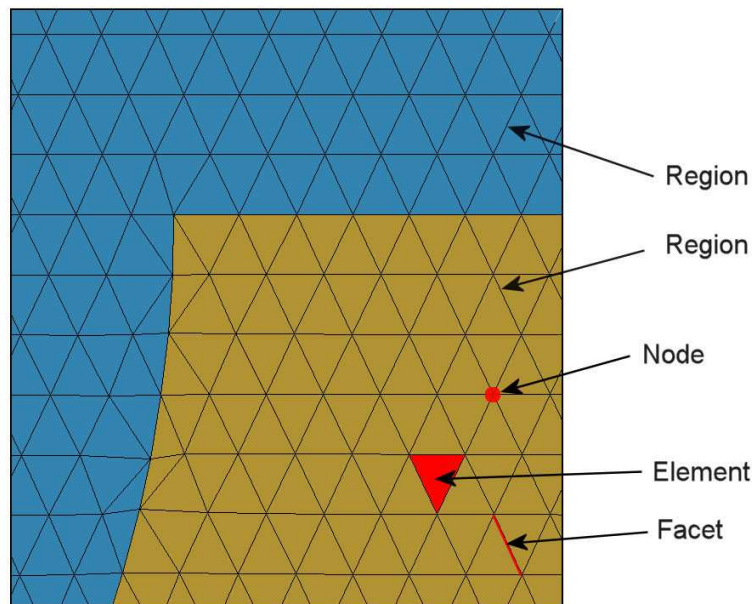

Figure 1: Conformal triangular mesh – definition of terms.
The basis of the finite-element approach is to divide the full solution volume into a number of small volumes, or *elements*. Here, the term *small* indicates that element dimensions are much less than the scale length for variations of field quantities. The division of the volume is called the *computational mesh*. Figure 1 shows the type of mesh used for the two dimensional solutions of **EStat**. The figure defines three terms that will be used throughout this manual:
The elements in Fig. 1 have triangular cross-sections. In a planar solution, the cross-section lies in the x - y plane and the elements extend an infinite distance in the z direction. In a cylindrical solution, an element is a figure of revolution about the axis with a triangular cross-section in the z - r plane.
The mesh in Fig. 1 has the important property of *conformality*. The term means that the triangles have been specially shaped to conform to the boundaries between materials (*regions*). As a result, each element has an unambiguous material identity. The finite-element method is
2. **Mesh** analyzes the boundary specifications and automatically generates a set of conformal triangles such as those of Fig. 1. The program creates an output file that lists the locations of nodes and the identities of elements.